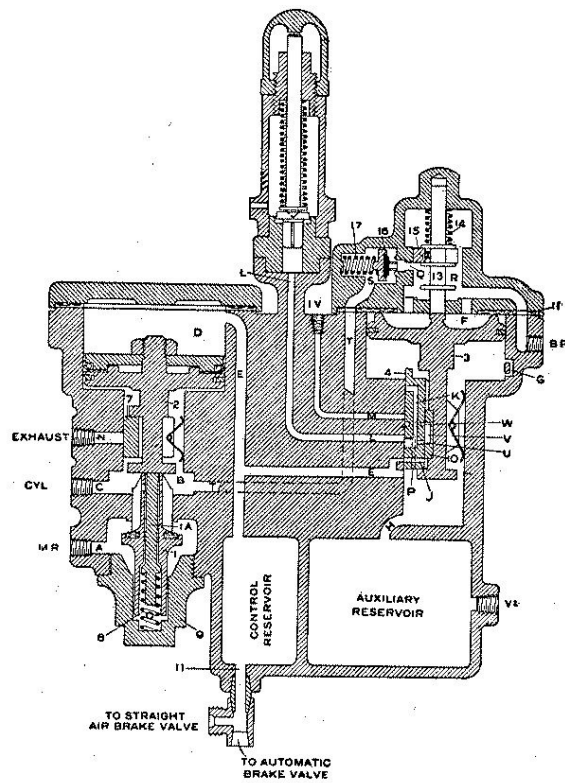

Fig. 24: Automatic Control Valve.
A. Any sudden reduction of brake pipe pressure will be felt on the brake pipe side of piston 3, and will cause it and the valve 4 to move to their extreme upper position, the knob on the piston striking the graduating stem 13, causing it to compress the spring 14, moving the emergency valve 15 upward, opening port "Q"; this allows brake pipe air to flow against valve 16, unseating it, then through port "T" to the brake cylinder. (See Fig. 24.) In the meantime auxiliary reservoir air can flow past the end of the slide valve through port "E" to the control cylinder "D" and control reservoir, forcing piston 2 downward unseating valves "I" and "IA", thus allowing main reservoir air to flow to the brake cylinders, applying the brake.